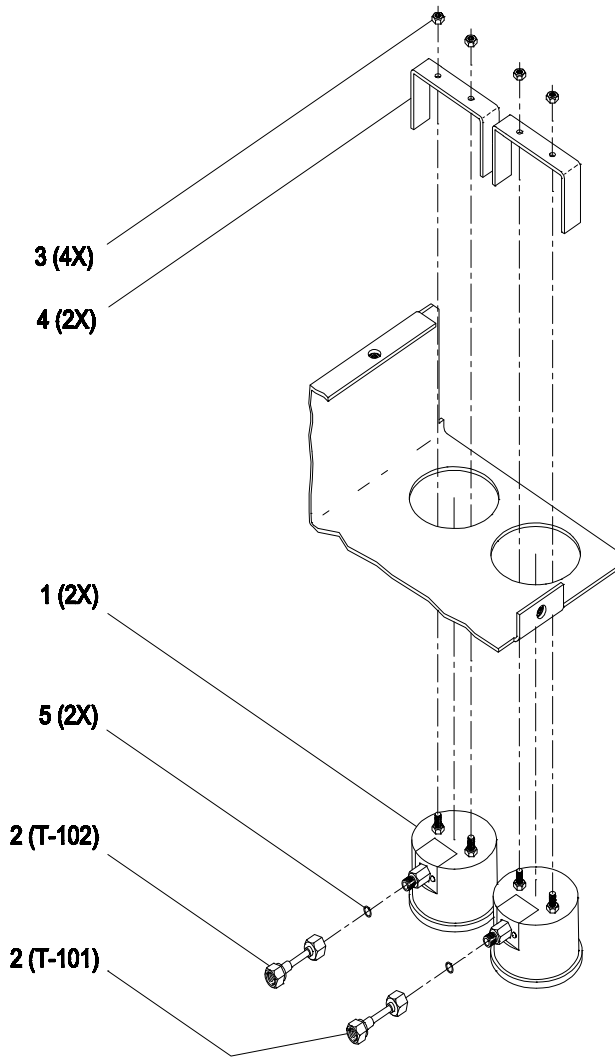

Figure 6-2. Gauge Removal and Replacement
6.6.2 Gauge (AHP-G101, AHP-G102) Removal and Replacement. (Numbers in parentheses within text refer to Figure 6-2.)
- (4) Using 9/16" and 11/16" wrenches, hold connection fitting on gauge (Figure 6-2, 1) in place while loosening upper union nut on tubing assembly (2). Slide nut away from gauge fitting.
- (5) Using 11/32" wrench, remove nuts (3) and bracket (4).
- (6) Remove gauge (1) through front of panel assembly.
- (7) Remove, cut, and discard O-ring (5).
- (8) If not replacing components immediately, cap or bag all open components.